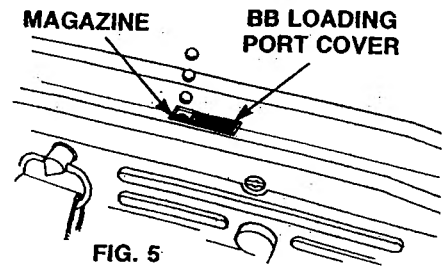

FIG. 5
- Slide the BB loading port cover back toward the rear of the pistol. (Fig. 5)